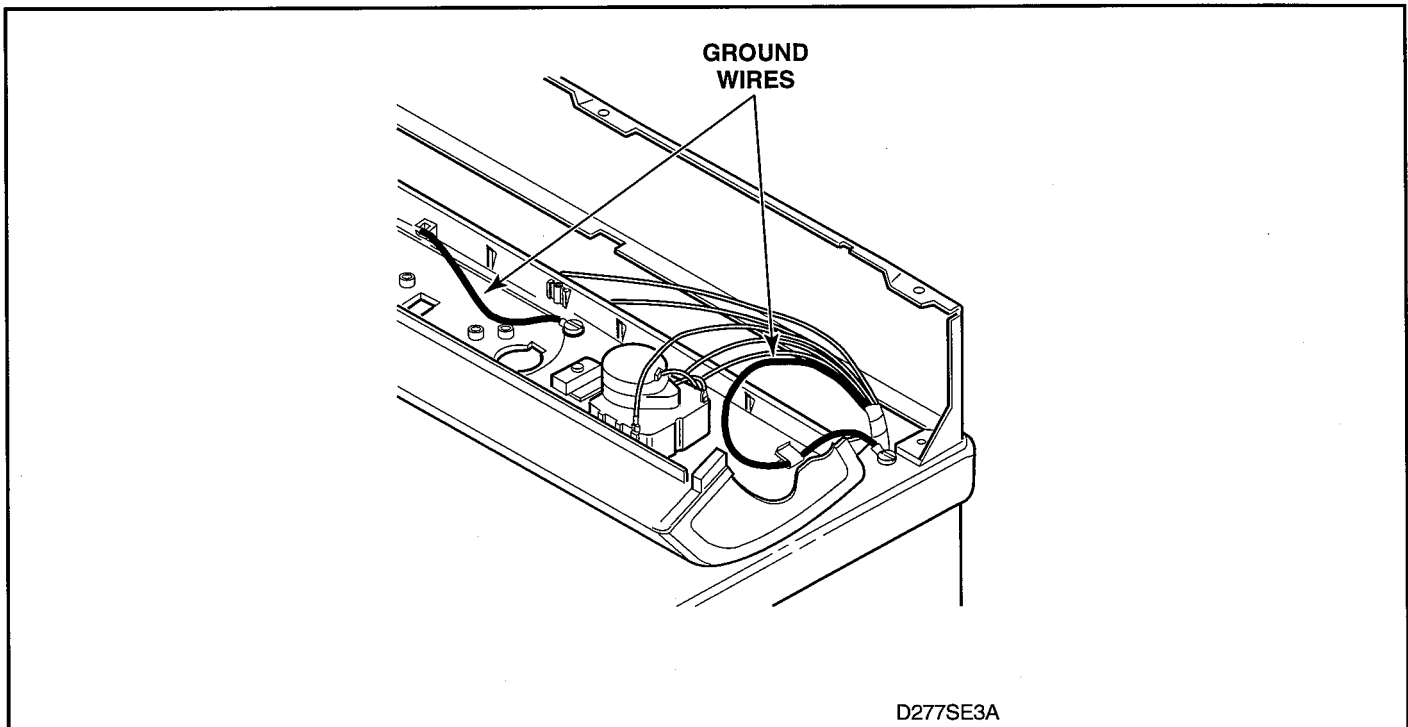

Figure 4-3
3. GROUND WIRES FROM REAR BULKHEAD TO TIMER MOUNTING BRACKET AND TO DRYER CABINET TOP. GROUND WIRES FROM TIMER MOUNTING BRACKET TO GRAPHIC PANEL (Mechanical Timer Models Only – Figure 4-3).